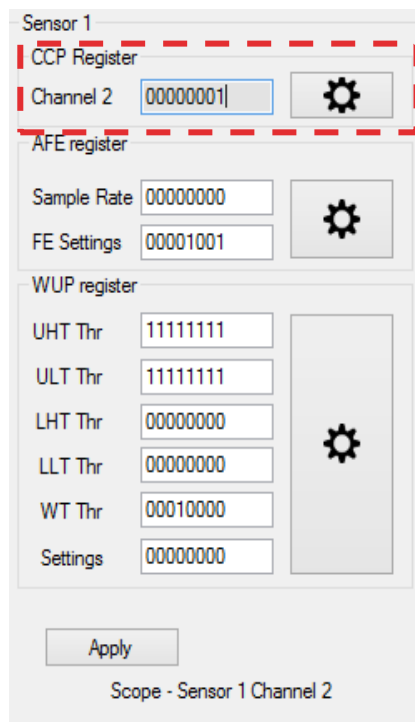

Figure 7: Changing CCP Register settings directly
**Note:** Any change to a register setting is not implemented until the Apply button has been clicked. If a new setting has not been applied it is shaded grey, as shown in Figure 7.